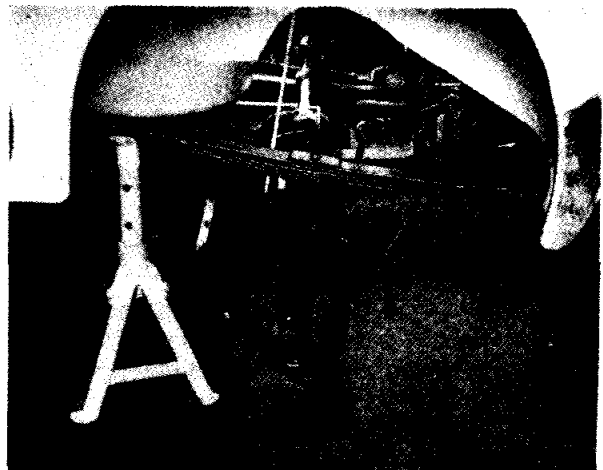

Fig. 10
- (i) Lift the axle clear of the spring and move it to the left, allow the right-hand side to be lowered when the axle end is clear of the right-hand spring. By moving the axle to the right it can be withdrawn from the chassis. (Fig. 10.)